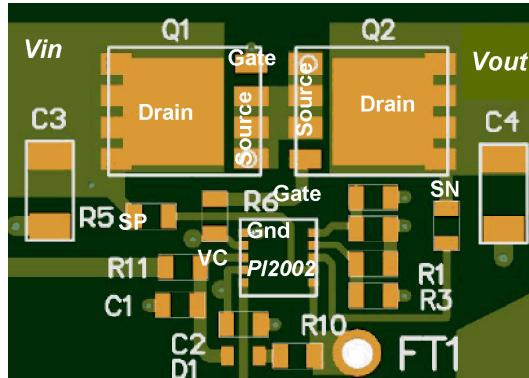

Figure 23: PI2002 and MOSFET layout recommendation
Use the following general guidelines when designing printed circuit boards. An example of the typical land pattern for a TDFN PI2002 and SO-8/PowerPak MOSFET is shown in Figure 23:
- Connect the power source very close to the Q1 drain connection to reduce the effects of stray parasitics. If a short trace is not possible, connect C3 (typically 1 μ F) as shown in Figure 23.